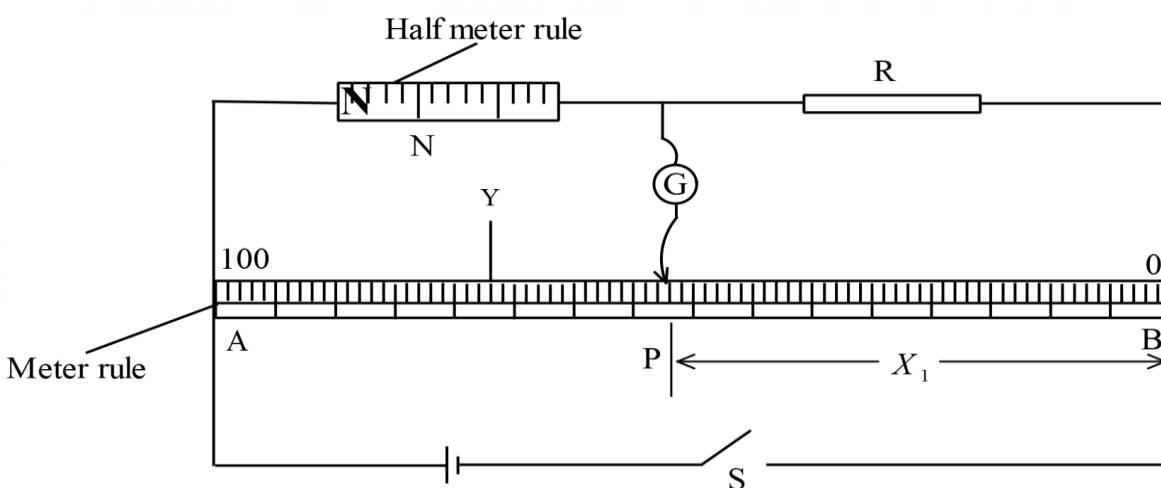

Figure 1
- (b) Set up the circuit as shown in **Figure 1**.